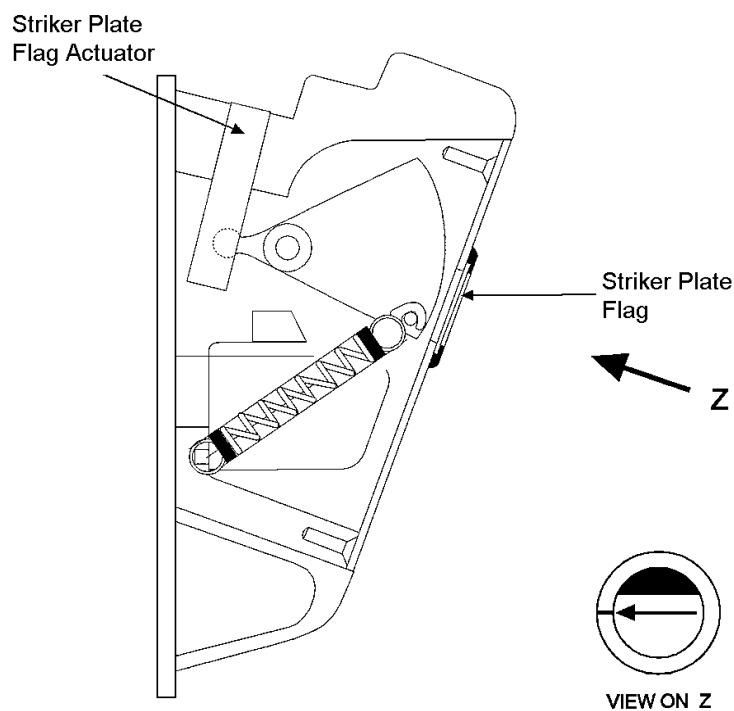

Figure 1: Cross Section of Striker Plate
- 4.2 With one finger, depress the striker plate flag actuator (see Figure 1), and check that the flag changes from yellow to black freely and without binding.